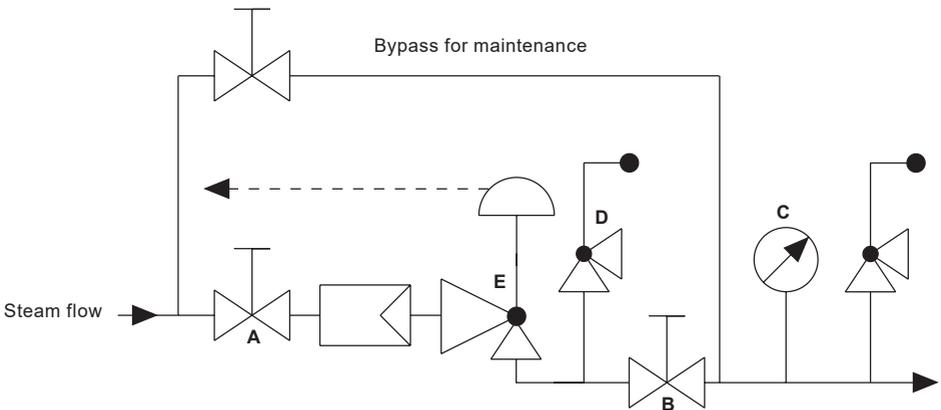

Fig. 5 Isolate the valve
- Isolate the valve, first closing the upstream isolating valve (A) and then the downstream isolating valve (B). Check that the pressure is zero (C) and allow the valve to cool (see Figure 5).
- Release the compression on the control spring (6) by turning the adjustment screw (19) anticlockwise.
- Lift off the spring housing (7) and the control spring (6) by first releasing the 'V' band clamp screws and then removing the 'V' band (18).
- Grip the flats visible on the main valve end and undo the lock-nut (16) clamping the diaphragm (12) and diaphragm plates (3 and 4). **Please note:** that when refitting the diaphragm plates the side with the radius should abut the diaphragm face.
- The diaphragm and diaphragm plates (12, 3 and 4) can then be removed from the main valve which should be carefully lowered and removed via the valve inlet. Note the diaphragm 'O' ring seal (17) which sits against the diaphragm PTFE face on the wetted side.